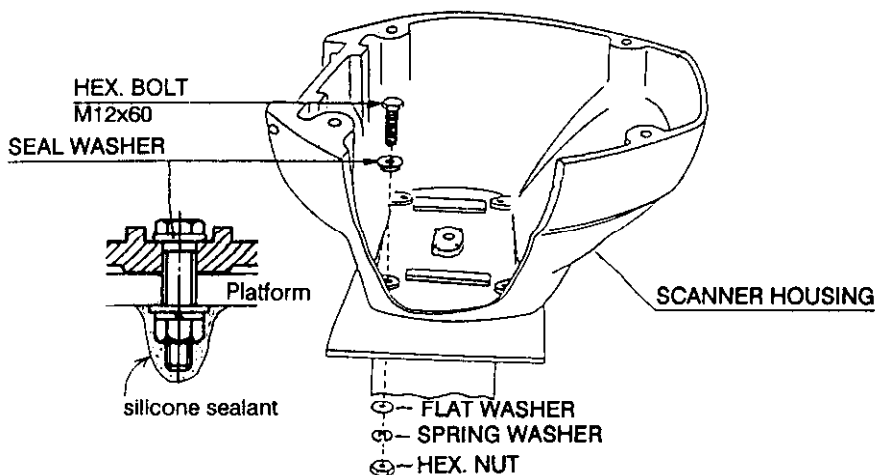

Figure 6-2 Mounting the Scanner Housing
4. Insert the M12 \times 60 hex. bolts with the seal washers from inside the scanner housing so that they will not touch the transceiver module. Before securing housing with washers and nuts coat them with silicone sealant. Then, coat exposed parts of bolts, nuts and washers as shown in Figure 6-2.
2. *Be certain to install the seal washer with the larger diameter under the head of the bolt as shown below in Figure 6-2.*